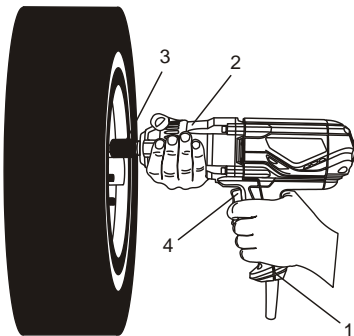

Fig. 2
This impact wrench is equipped with a rocker style forward/reverse switch (1) (Fig. 2).
1. To operate the impact wrench in the forward direction, press and hold the bottom part of the switch (2). The socket will rotate in a clockwise direction to **tighten** the fastener.
2. To operate the impact wrench in the reverse direction, press and hold the top part of the switch (3). The socket will rotate in a counter clockwise direction to loosen the fastener.
3. Grasp the impact wrench handle (1) with one hand and the front housing of the impact wrench (2) with the other hand (Fig. 2).